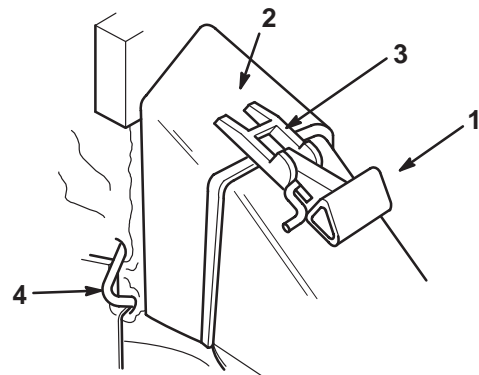

Figure 37
- Ensure that the discharge door handle is fully forward (door closed) as shown in Figure 37.
- Fit the bag door opening over the discharge tunnel opening as shown in Figure 37.
2. Lift the door latch until it clears the bag notch and move the discharge door handle forward (Fig. 37).